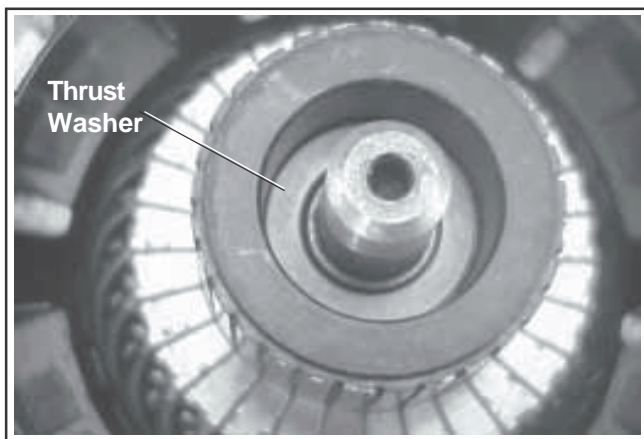

Figure 7-38. Installing Thrust Washer.
9. Install the flat thrust washer onto the commutator end of the armature shaft. See Figure 7-38.